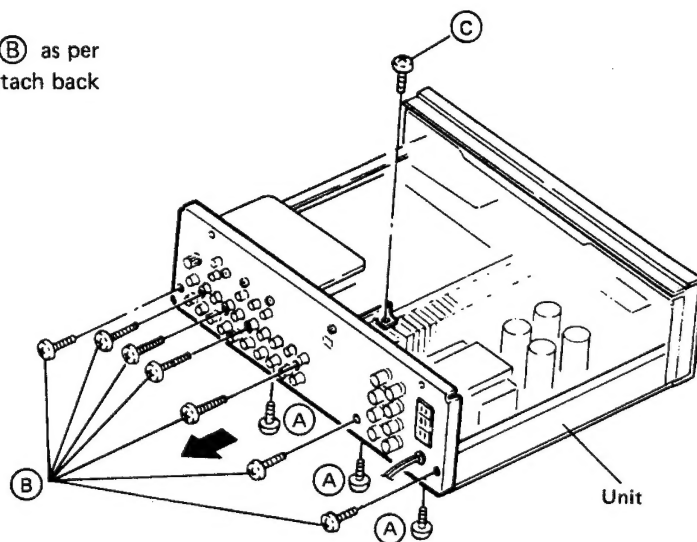

Fig. 3
- Remove 3 screws (A) and 7 screws (B) as per Fig. 3. Also remove screw (C) and detach back panel from the unit.